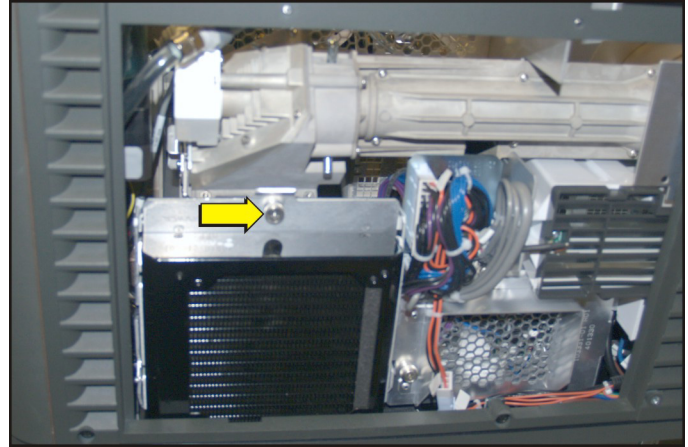

Figure 5-15 Radiator Filter
3. Manually loosen the captive screw securing the radiator air filter door (**Figure 5-15**).